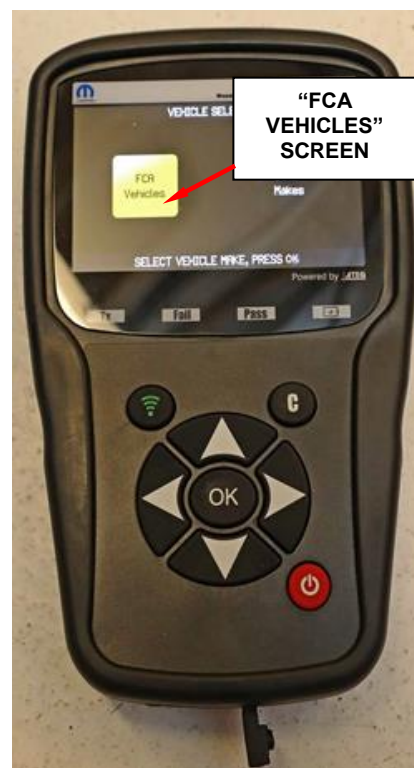

Figure 2 - Selection
- Select 'FCA Vehicles' displayed on the screen (Figure 2).